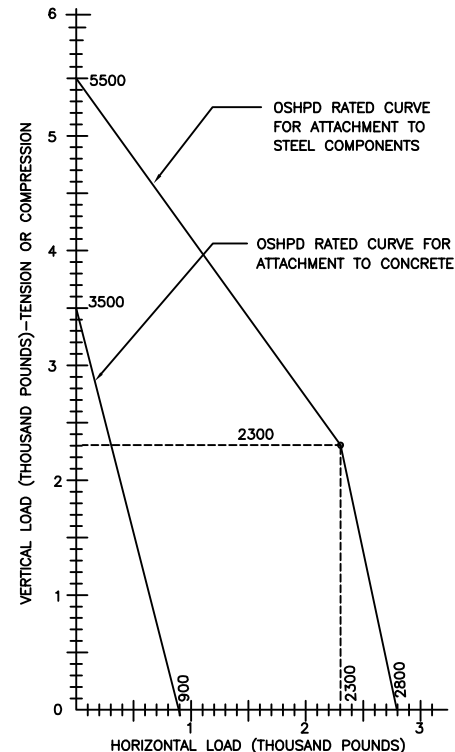

FIGURE 1
1. HORIZONTAL AND VERTICAL RATINGS OF AEQMR-1C ARE SHOWN IN FIGURE 1. ANALYSES HAVE BEEN PERFORMED IN ACCORDANCE WITH APPLICABLE CODES.
- A. FOUR (4) 1/2" DIA. HILTI "KWIK II" WEDGE ANCHORS, WITH MINIMUM 3-1/2" EMBEDMENT INTO 3000 PSI NORMAL WEIGHT CONCRETE. MINIMUM EDGE DISTANCE IS 6-3/4. (NOTE: OTHER BRANDS OF ANCHOR BOLTS ARE MAY BE USED PROVIDED THEY ARE OF EQUAL STRENGTH AND HAVE BEEN APPROVED BY OSHPD), TO ACHIEVE RATED LOAD, "SPECIAL INSPECTION" IS REQUIRED.